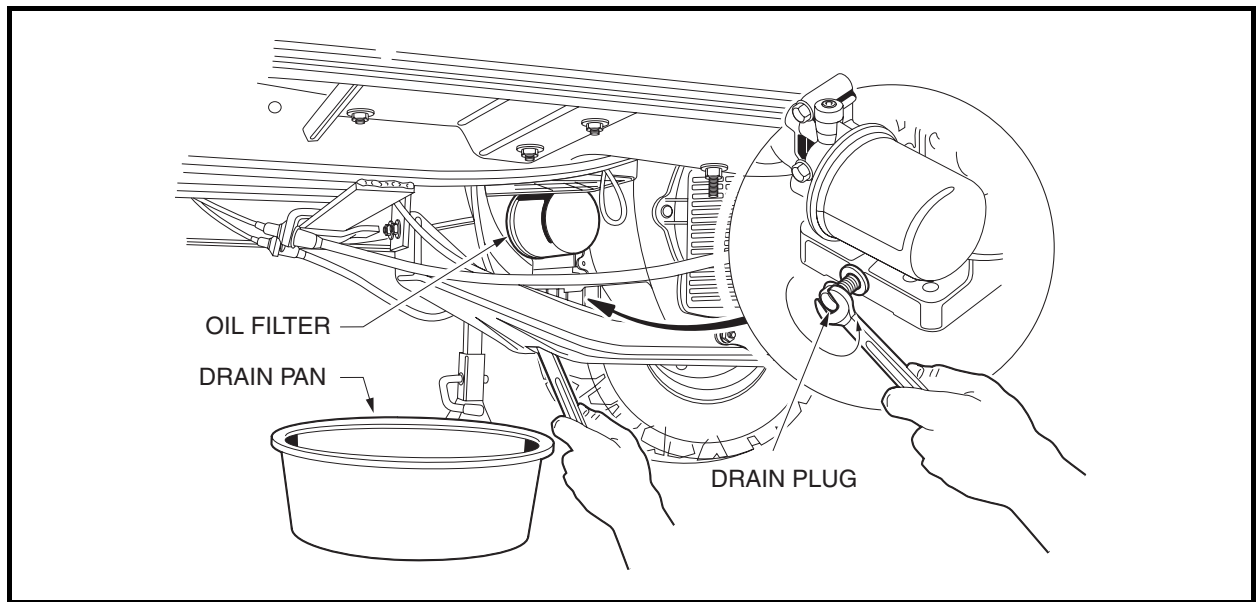

Figure 28 Engine Oil Drain Plug and Pan
4. Position a pan designed for oil changes under the front drain plug (**Figure 28**).
8. Relocate the oil drain pan to a position under the engine oil filter (**Figure 28, Page 42**).
NOTE: An oil drip guard can be used to prevent excess oil from dripping into the engine base plate. Use an empty quart (one liter) container and cut the bottom off at an angle, then slide the open area of the container up and under the oil filter prior to removing. Position the port of the plastic container so oil will be directed into the oil pan (**Figure 28**). Or, make a drip guard by folding a piece of cardboard, thin metal, or plastic under the oil filter forming a channel to direct the filter port oil into the drain pan.